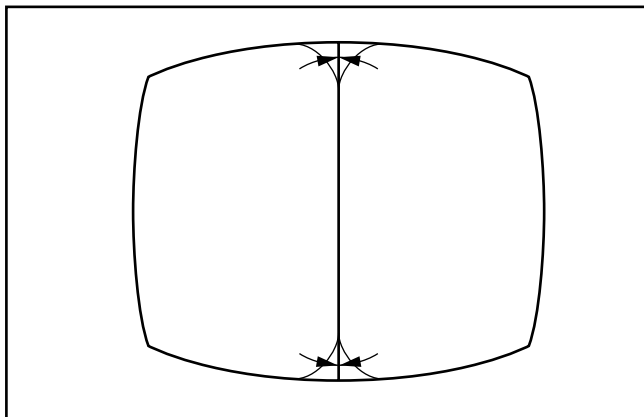

Fig. E10-1
2. Hold Deflection Yoke and wiggle it up and down to correct Crosshatch Pattern position (Refer to Fig. E10-1).